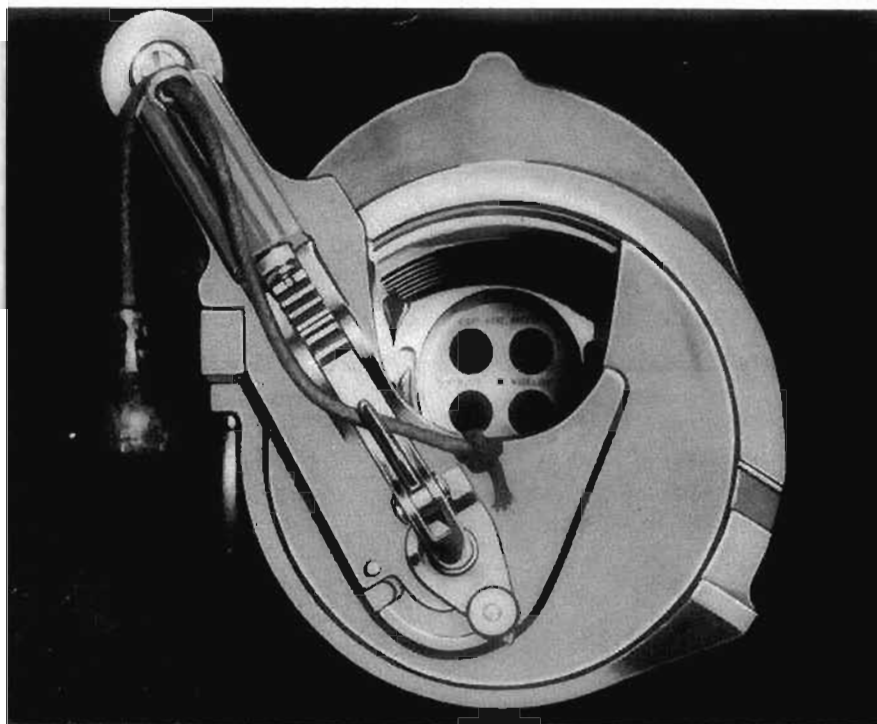

Figure 46
- (1) Breech boresight--brass disk which fits into bore at the breech (fig. 46).